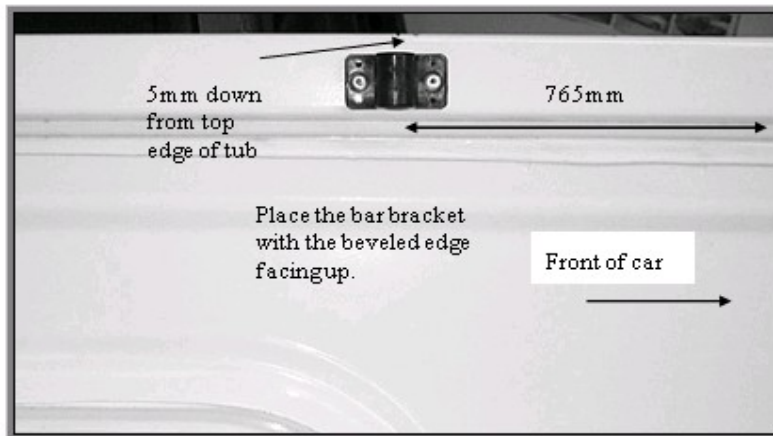

Figure 2: Placement of bar bracket
6. To fit the bar brackets, measure 765mm back from the inside front edge at the top of the tub and place them as shown in Figure 2. (5mm down from top edge of tub) Drill and rivet using